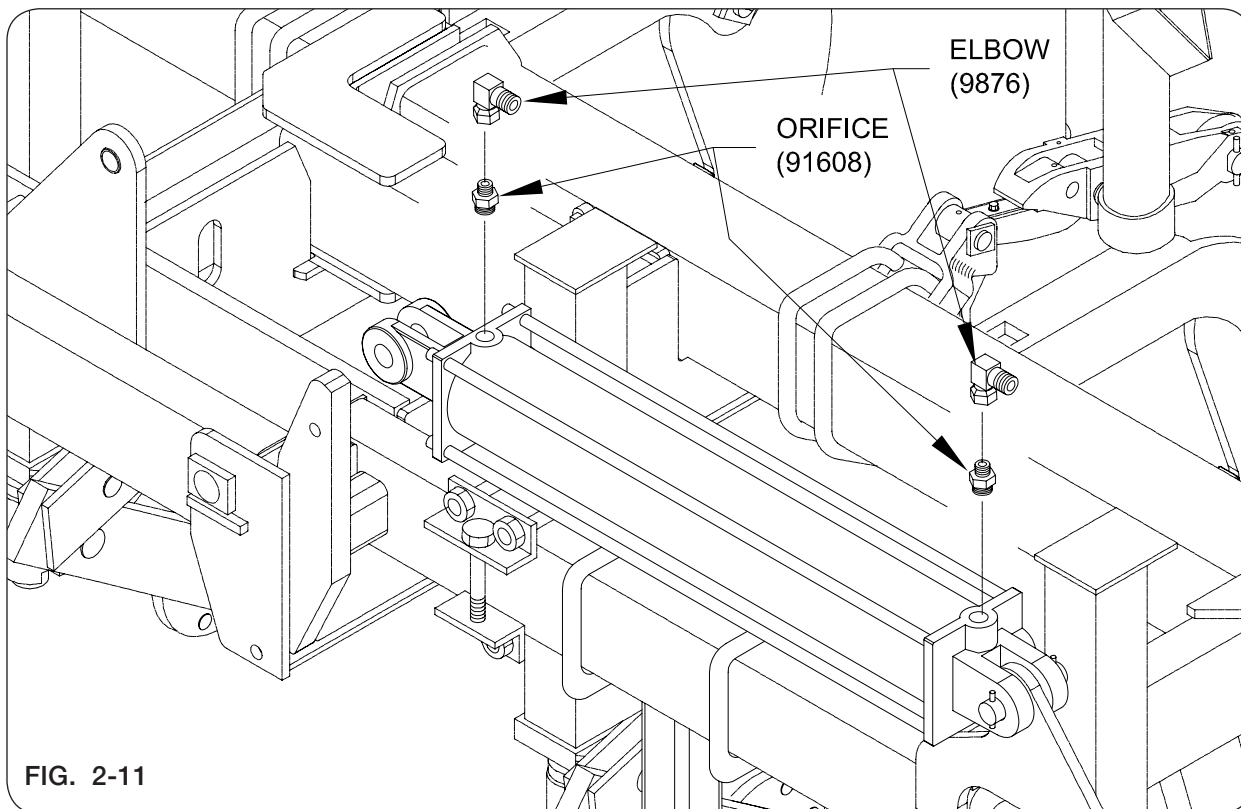

FIG. 2-11
4. Attach all the hydraulic fittings in the places shown (Fig. 2-11).